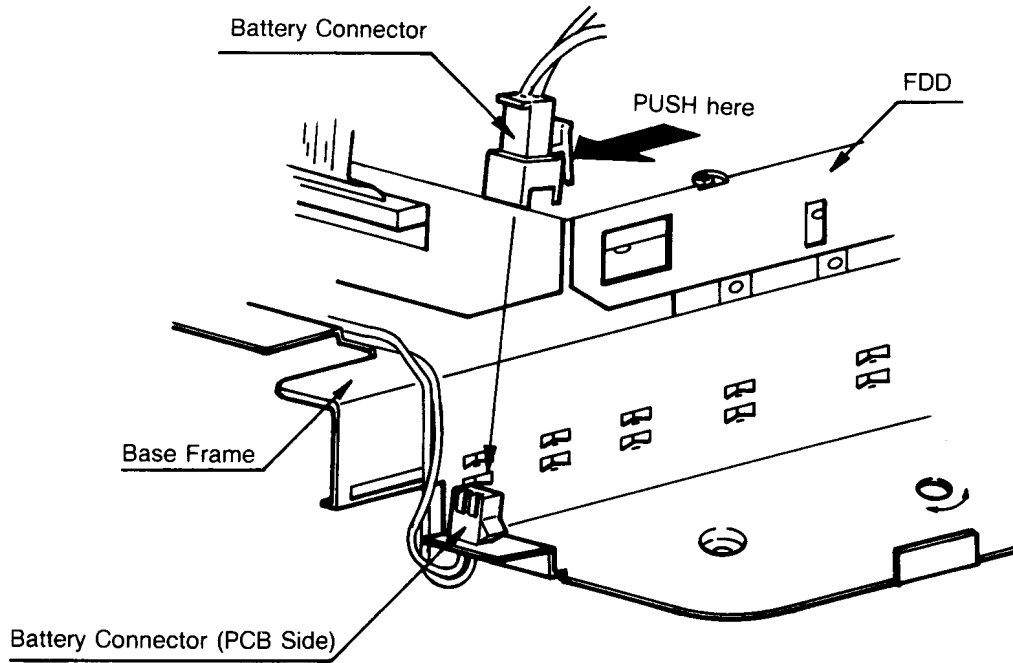

**Figure 2-11. LED PCB and Keyboard Removal**
- (1) Remove four Keyboard screws. (Figure 2-11)
- (2) Remove the LED Bracket screw.
- (3) Remove the LED connector from the Main PCB and remove the LED unit.
- (4) Remove two Keyboard connectors from the Main PCB and remove the keyboard.